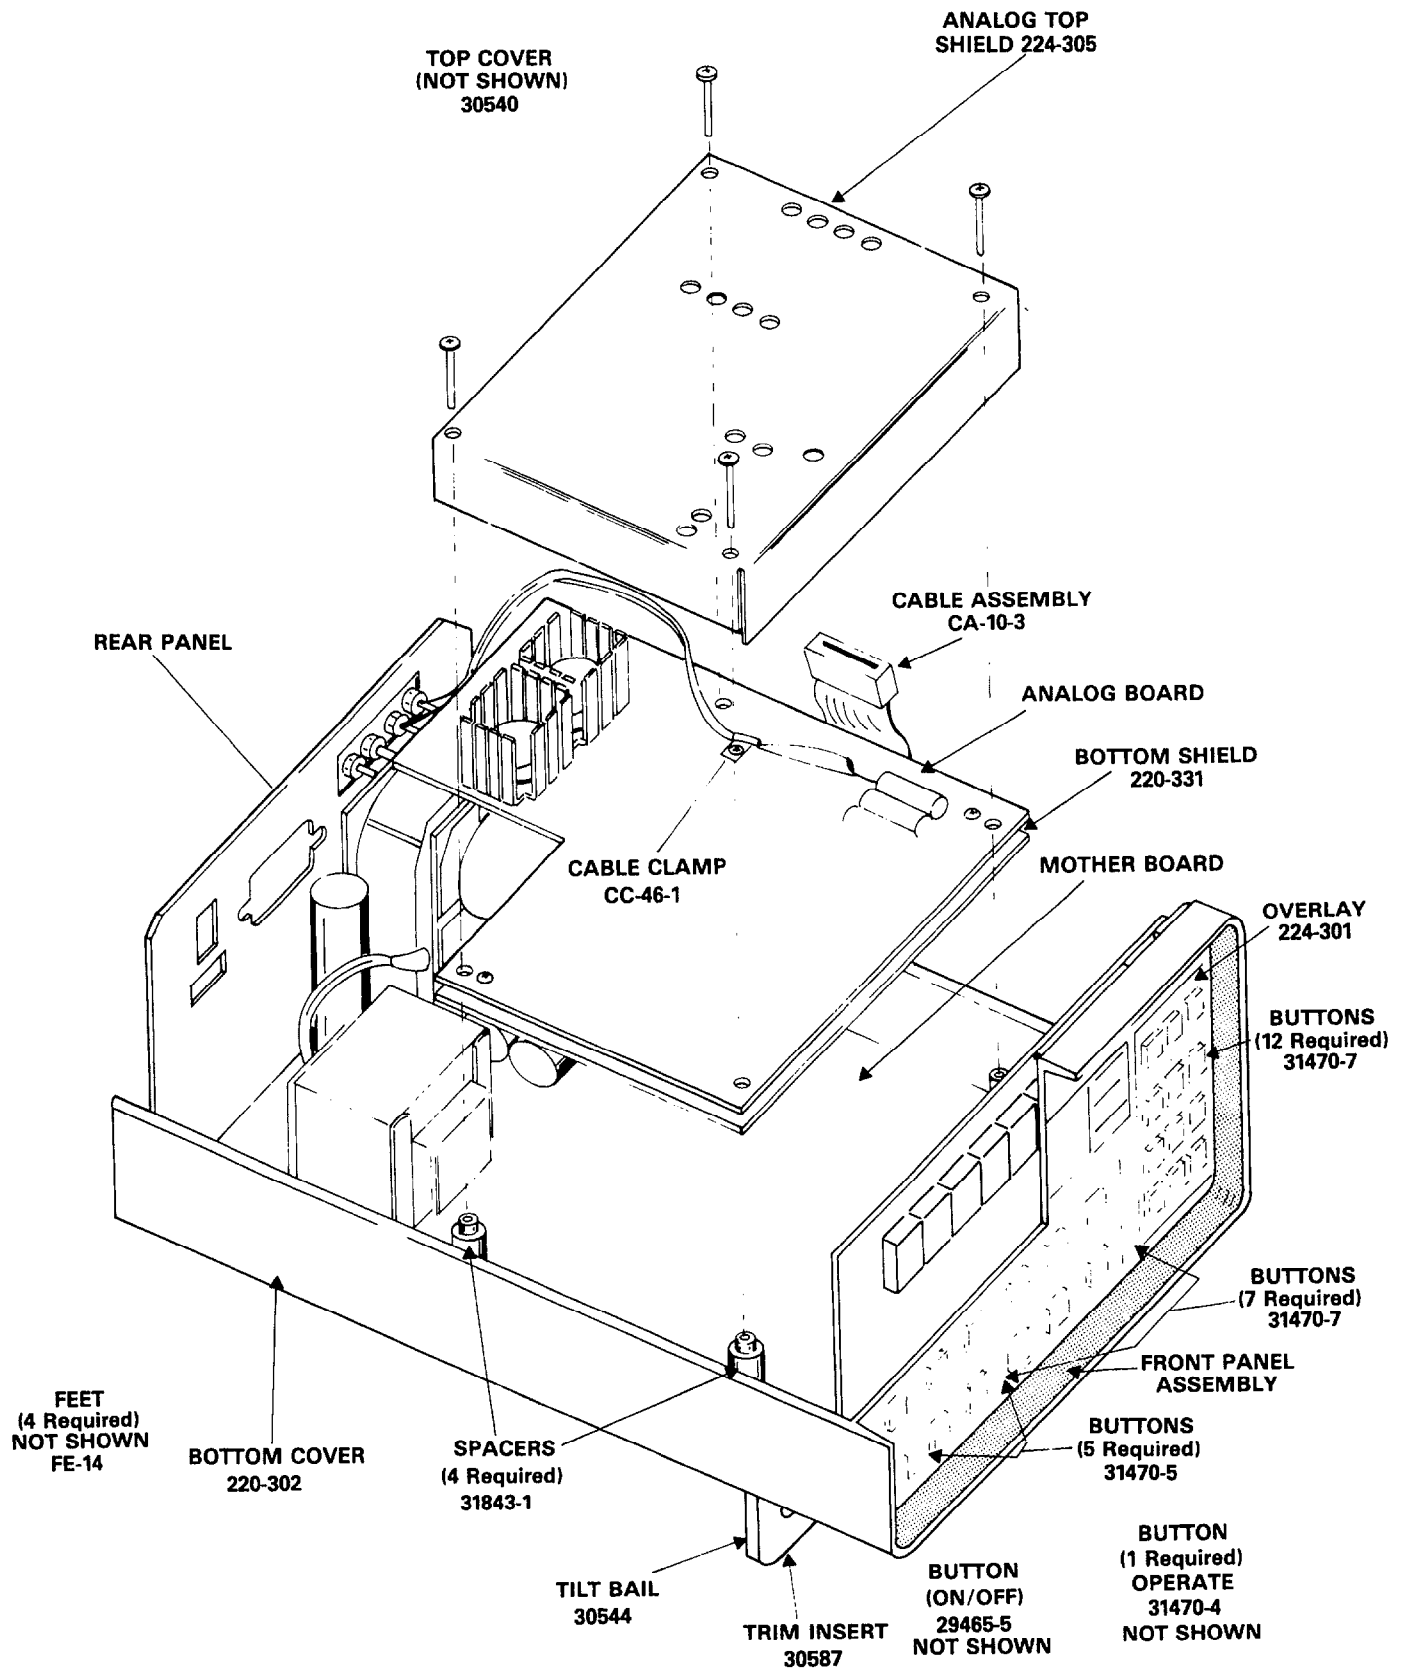

Figure 5-1. Model 224 Exploded View
1. Remove the top cover. Refer to the disassembly instructions in paragraph 5.4. Refer to Figure 5-1.
If it should become necessary to disassemble the Model 224 use the following procedure. Also, refer to Figure 5-1.